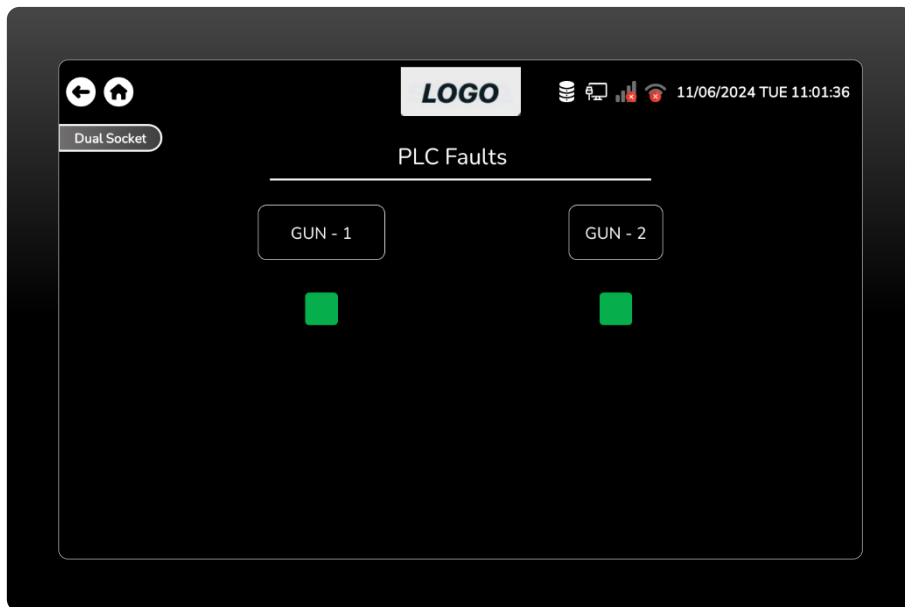

Figure 73 PLC Faults Screen.
- This is the PLC faults screen, where the user can view PLC faults for GUN-1 and GUN-2. (Figure 73)